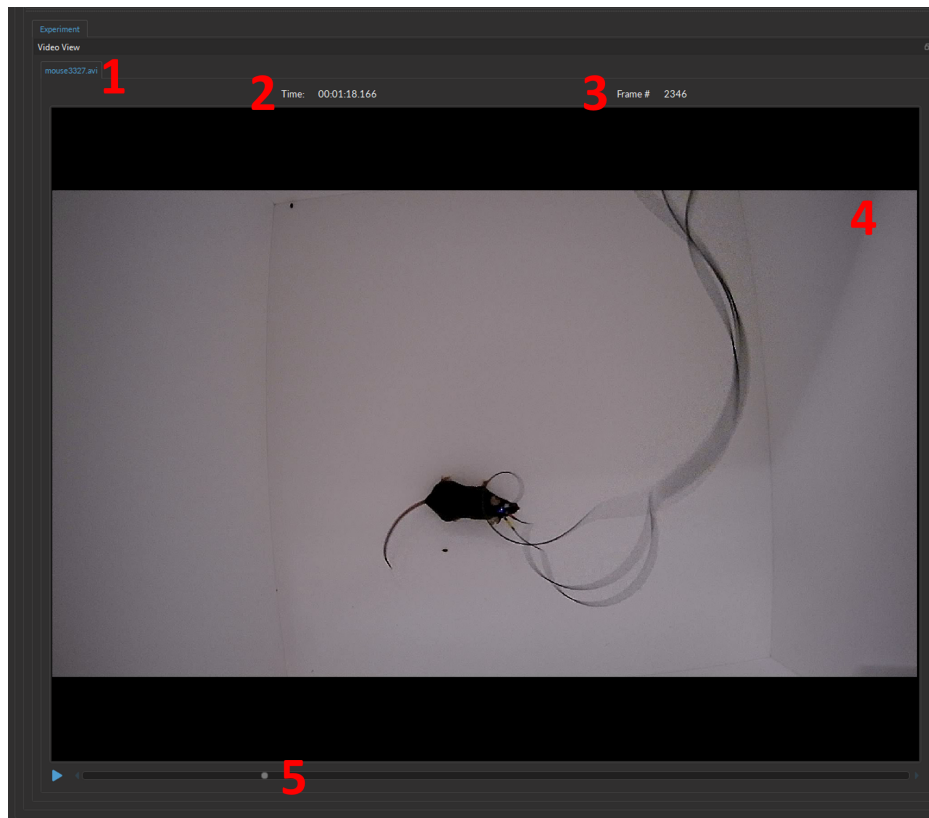

Figure 12.13: Video View
The **Video View** (Fig. 12.13) displays the video feed once a video is loaded into the module. Users can scroll through the video frame-by-frame or play the footage at a set frame rate.
1. The **Video tab** (Fig. 12.13, 1) allows multiple video files to be simultaneously loaded into the module. Each video file will have its own tab, labeled with the filename (e.g. *mouse3322.avi*). Only one video can be viewed at a time. To switch between loaded videos, select the tab of choice.
2. The **Time** (Fig. 12.13, 2) displays the timestamp associated with the current frame (in hh:mm:ss:zzz).
3. The **Frame #** (Fig. 12.13, 3) displays the index of the current frame within the entire video.
4. The **Current frame** (Fig. 12.13, 4) is where the image associated with the **Frame #** of the video is displayed.
5. The **Current Time Bar** (Fig. 12.13, 5) allows users to quickly hop between frames. Use the play button (on the left of the bar) to run the video at a normal frame rate. The **Time** and **Frame #** will be automatically updated when moving the cursor within the **Time Bar**. Note that moving the cursors in the **Video View** will automatically move the cursor in the **Signal View**, facilitating checking the correlation between signal and behavior.